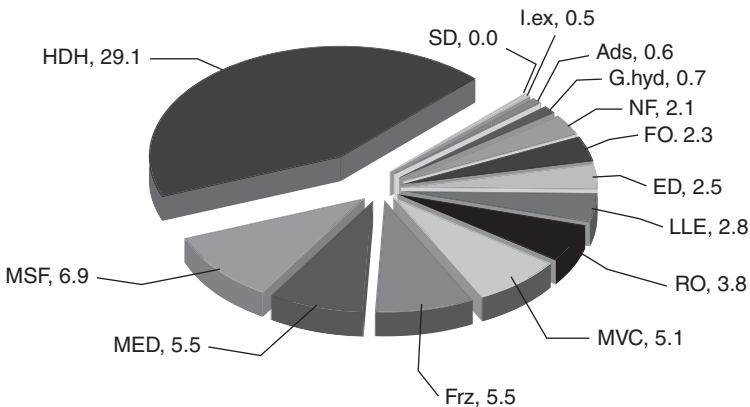

Figure 1.6 CO₂ released from different desalination technologies measured in kg/m³. Source: Youssef et al. 2014 [3]. Reproduced with permission of Elsevier.
4. Emission: The fourth parameter is the level of emitted emissions of CO₂ from desalination that affect the formation of greenhouse phenomenon (Figure 1.6).